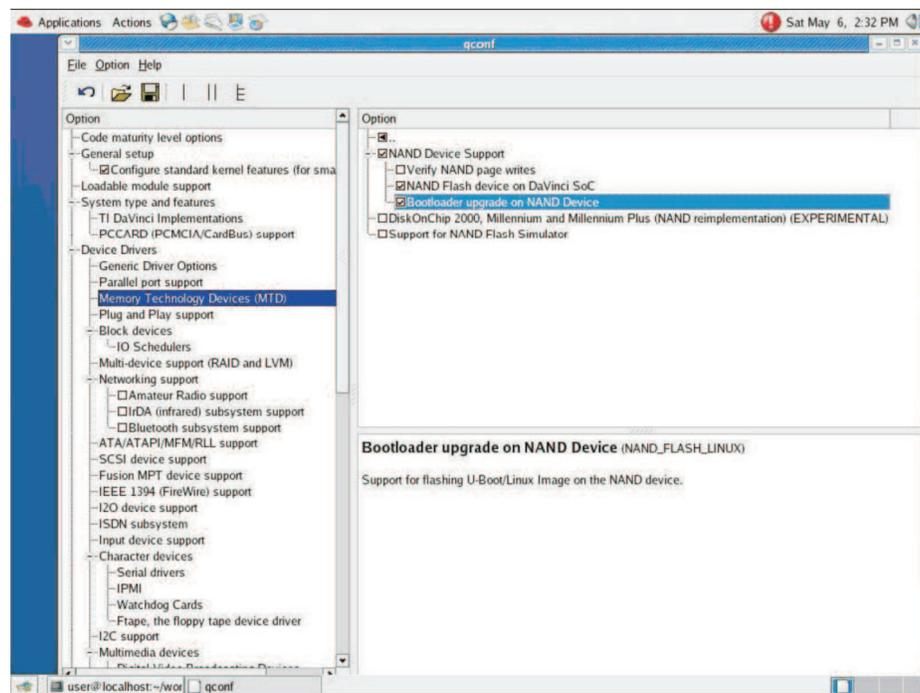

Figure 9. Enabling NAND Support
- Make sure that the NAND Flash Device on the DaVinci System-on-Chip (SoC) option has a check and not a dot. Also, check the Bootloader upgrade on the NAND Device as well. See Figure 9.